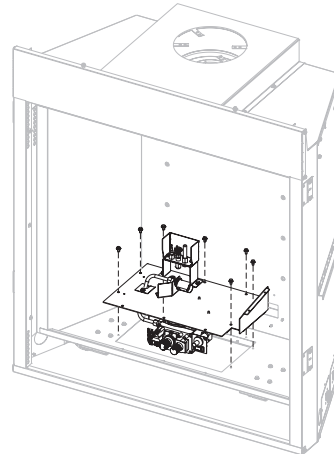

Figure 10
7. Remove seven screws and lift burner assembly. Retain screws and burner assembly for reassembly. **See Figure 10.**
12. Reinstall the burner assembly and seven screws removed in step 7. **See Figure 10.**